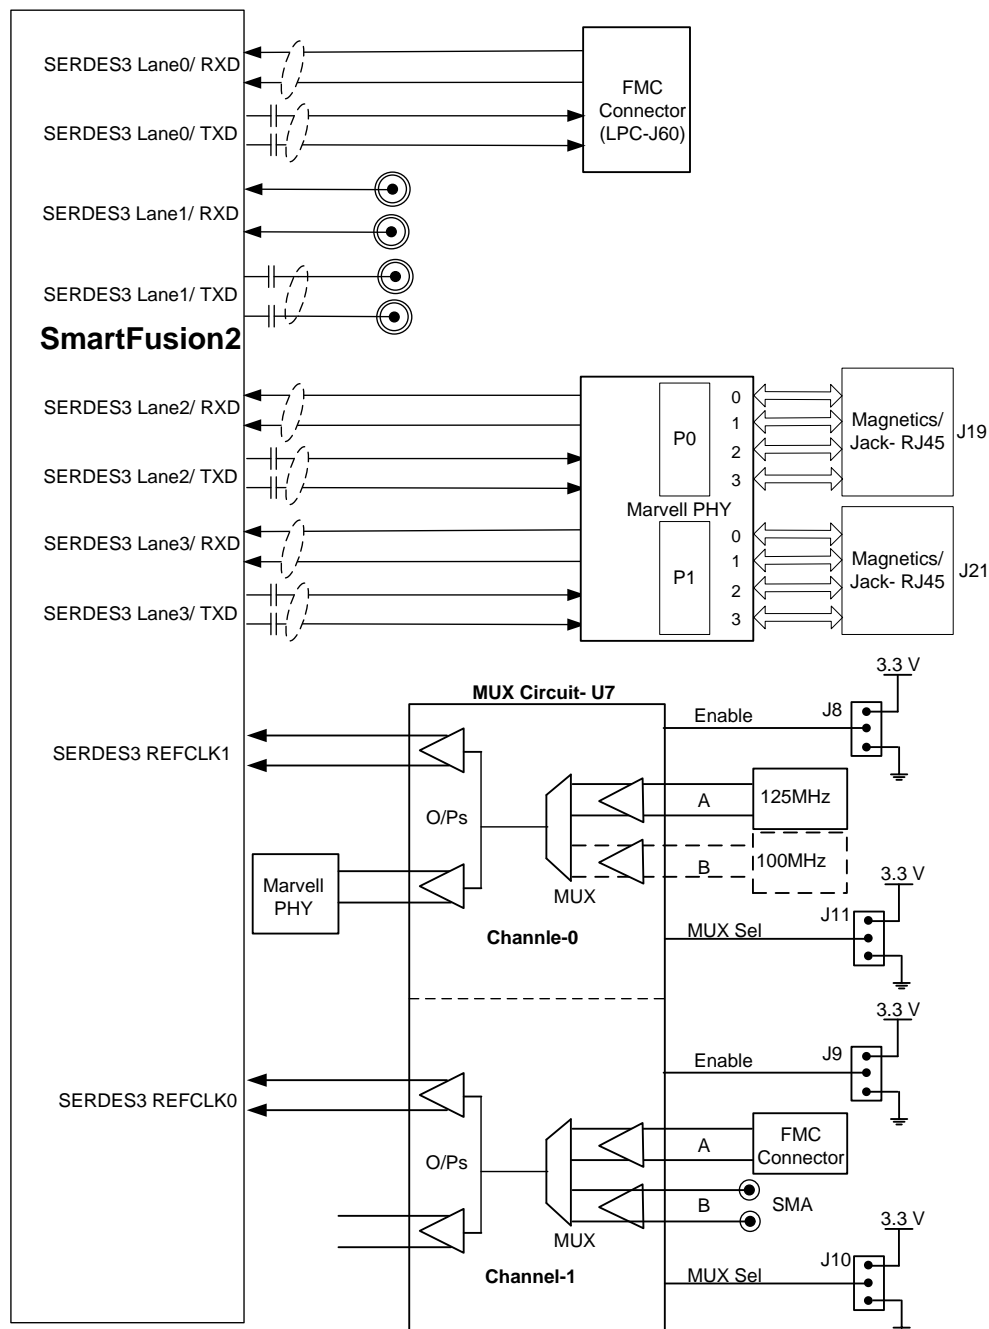

Figure 10 - SERDES3 Interface
- SERDES3 Reference clock 1 is connected from 125 MHz or 100 MHz options through MUX. Refer to Figure 10.